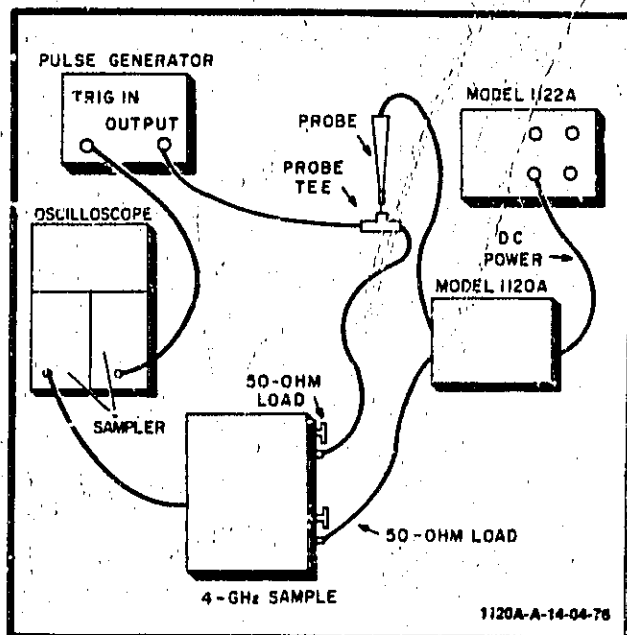

Figure 12. Rise Time Test Setup
28. Connect the equipment as shown in figure 12 for Pulse Rise Time and Gain check.